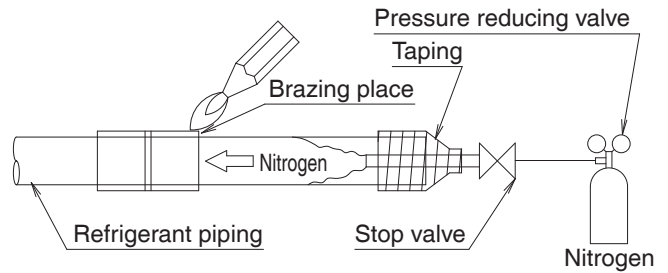

Fig. 12
- Before brazing refrigerant piping, have nitrogen flow through the refrigerant piping and substitute air with nitrogen (NOTE 1) (**Refer to Fig. 12**). Then, carry out brazing (NOTE 2). After all the brazing works are finished, carry out flare connection with the indoor unit. (**Refer to Fig. 11**)